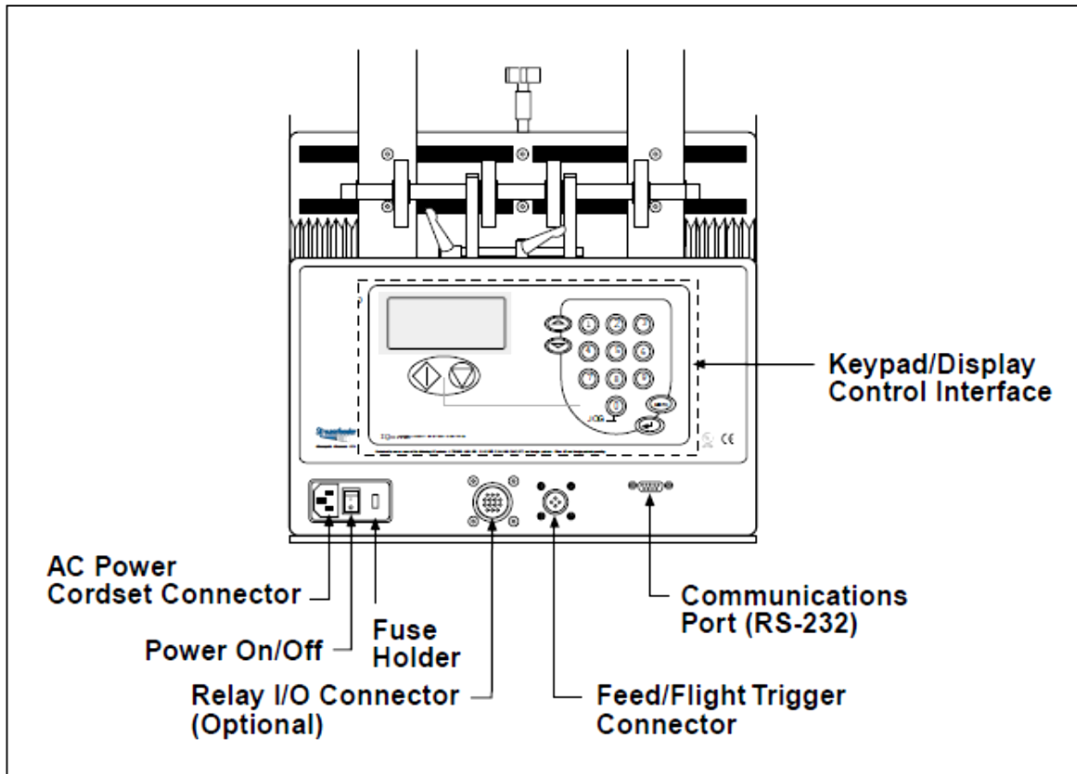

Figure 1-2. Control Panel Components
- Control Panel (see Figure 1-2 and Table 1-2)
Control panel	All connectors and switches for sensor, interface, and AC power are located here. Also contains numeric keypad and vacuum fluorescent display for operator control interface. For descriptions, see Figure 1-2 and Table 1-2.